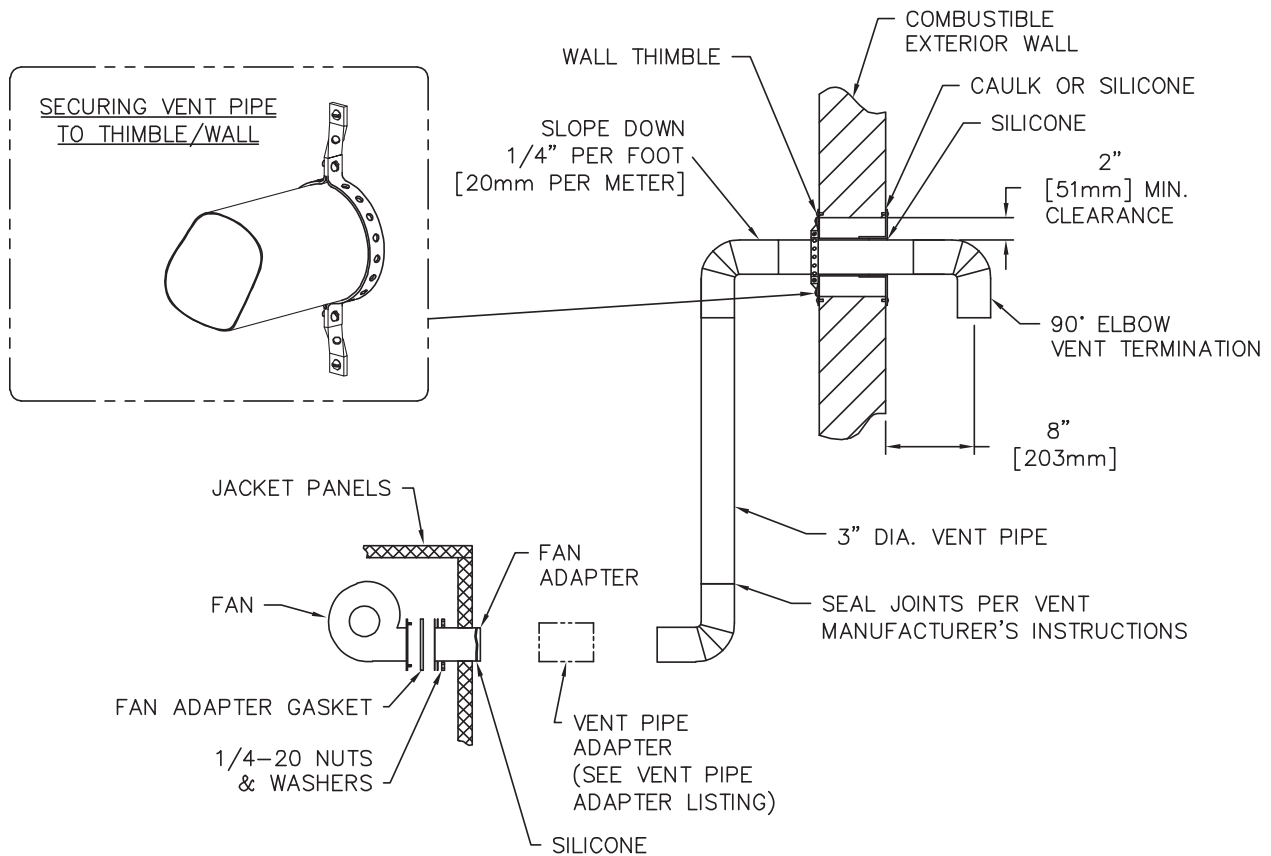

Figure 4.4: Direct Exhaust; Sidewall Venting
- i. The only approved vent termination is a 3" (76 mm) 90° elbow. Refer to Figure 4.4. Vent pipe must be sealed to the thimble (or outside wall if non-combustible construction) using silicone to prevent recirculation of flue products into the structure.